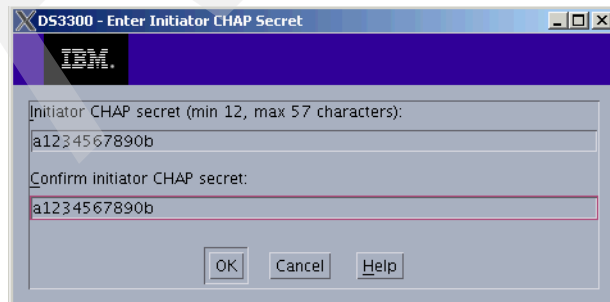

Figure 13-5 Storage Manager - Initiator CHAP Secret
3. Enter an initiator CHAP secret with at least 12 characters twice, as shown in Figure 13-5. Click **OK**.